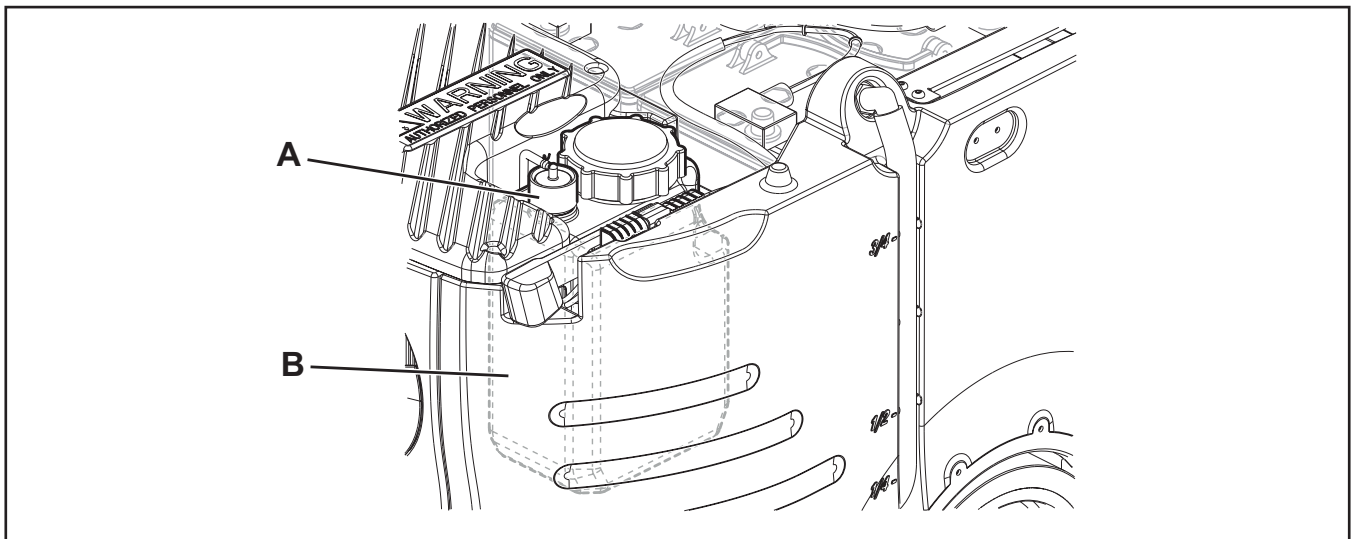

Figure 8
2. Ensure that the machine is off and the operator key (41) has been removed.
6. Unscrew the plug (A, Figure 8) from the detergent tank (B).
9. Replace the detergent tank (B) as shown in the figure, then refit the plug (A).